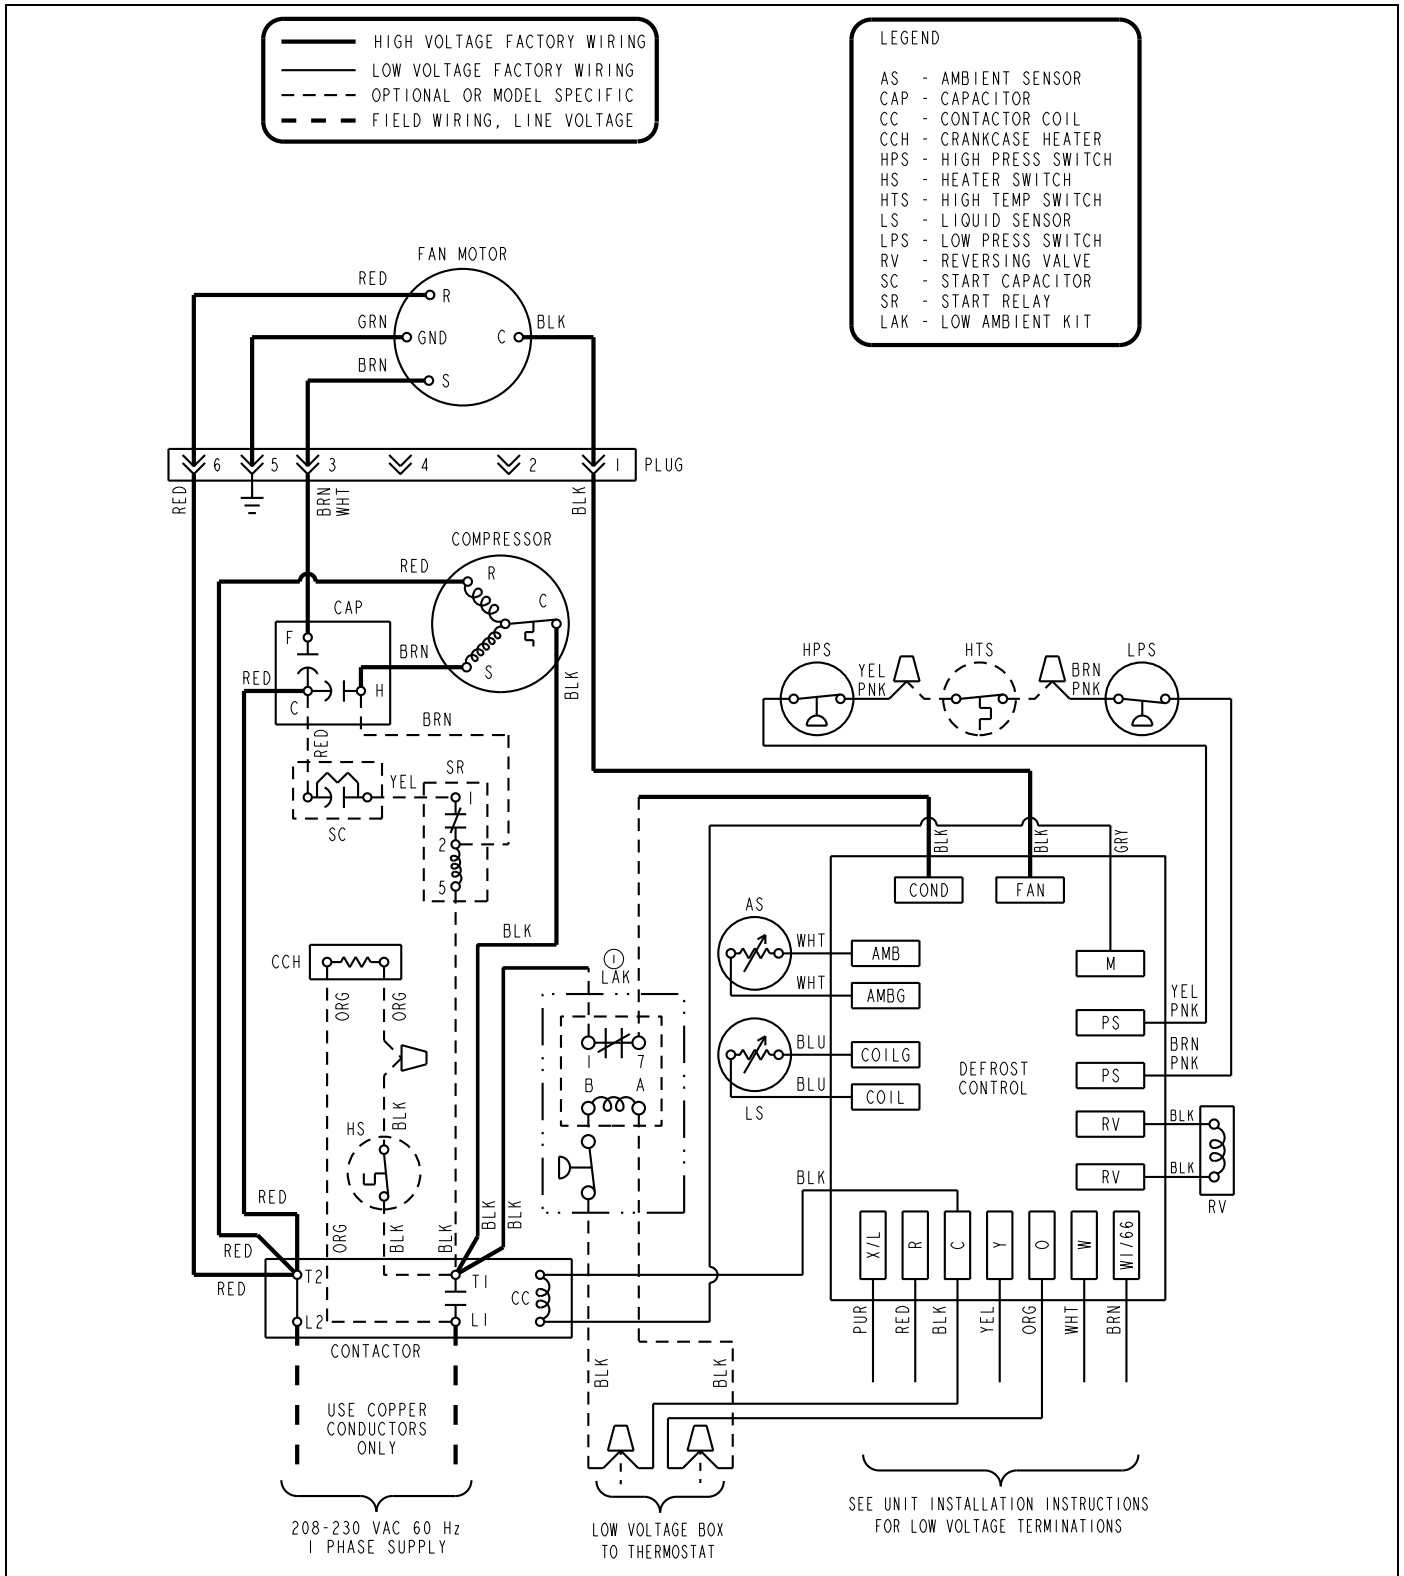

FIGURE 3: Wiring Connections for Single Stage Heat Pump Units
- b. For 1 and 3 phase HP, use Figure 3\*.